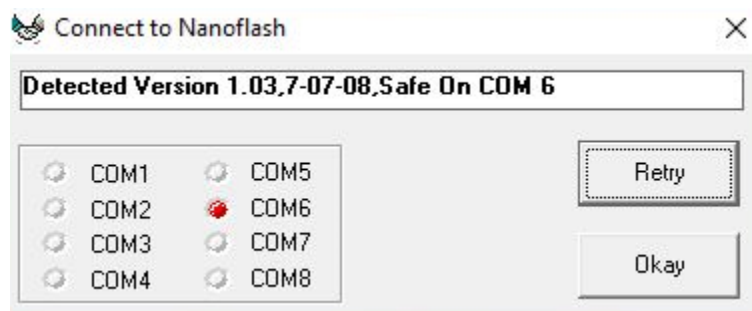

Figure 6. Connect to Nanoflash window with instrument detected.
4. Click Okay after the Connect to Nanoflash window has appeared and has detected the instrument (as shown in Figure 6).